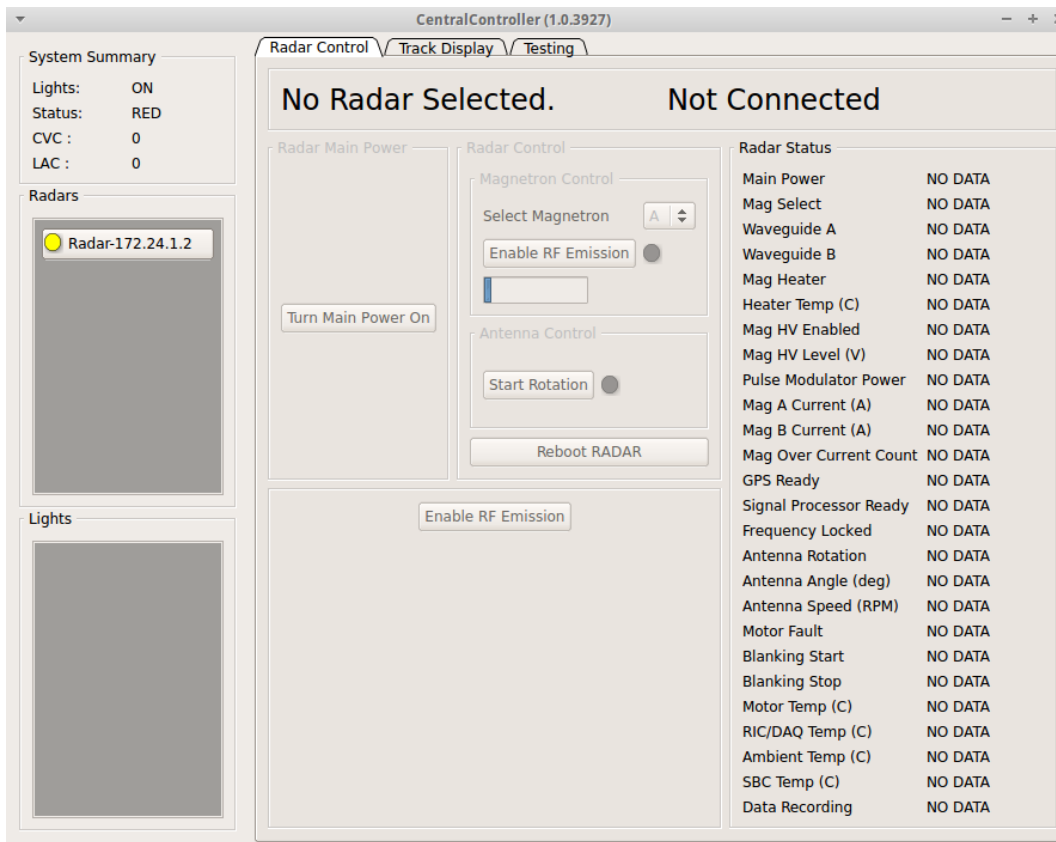

Figure 7. Screenshot showing the Radar Control GUI before it makes a communications connection with a Radar.
- b. The program will initially display a new Radar Control GUI screen similar to Figure 7, with status as ***“Not Connected”*** until a Radar Processor connects.